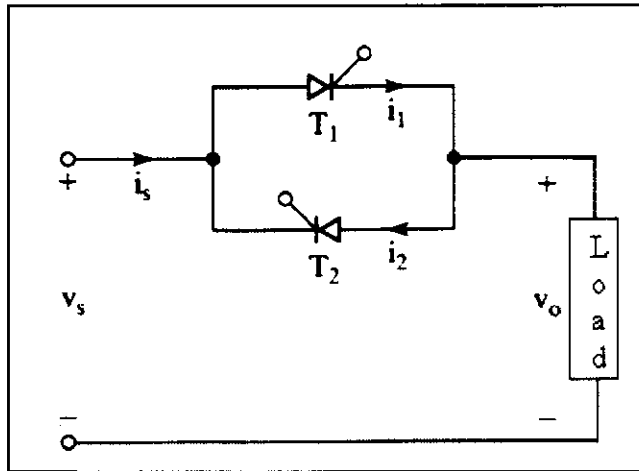

Figure Q5(a)
- Q5** (a) Figure Q5(a) employed for controlling the power flow from 240 Vrms, 50 Hz source into a load circuit consisting of a resistor load, $R = 7 \Omega$ and the average output voltage is 160V.